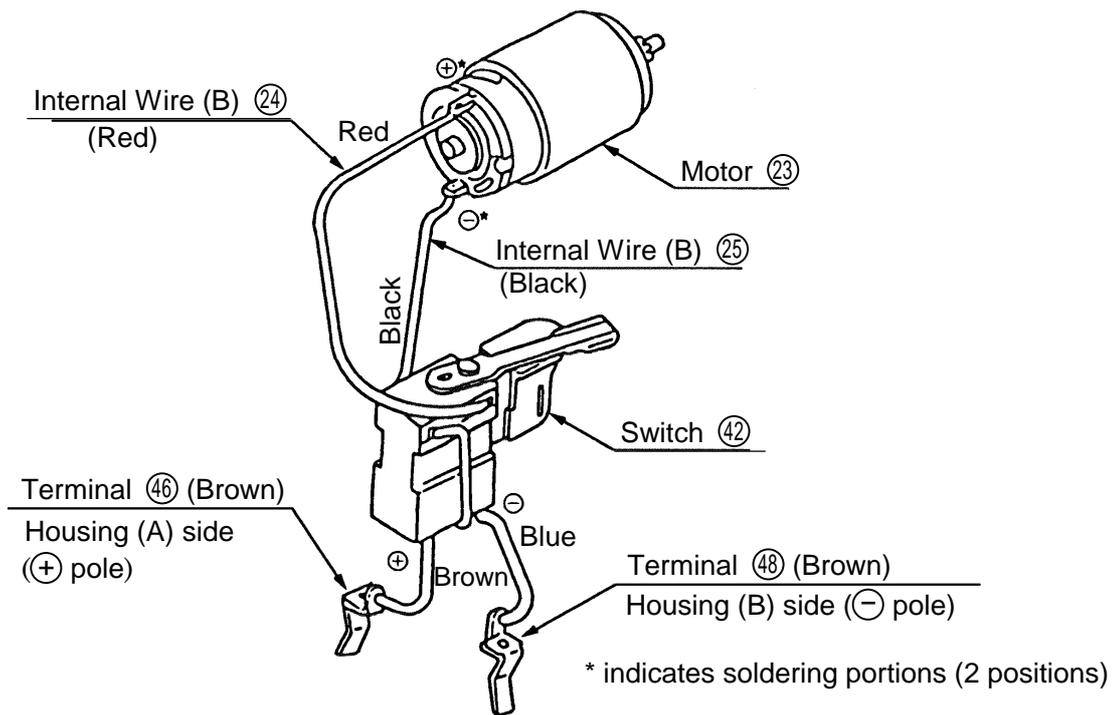

Fig. 3 Internal wire Arrangement of the Model DS 7DT
- (1) Ensure that the wiring of the Model DS 7DT is connected in accordance with the internal wire arrangement illustrated in Fig. 3.
- (2) When inserting the internal wires into the terminals of the Switch ④②, carefully confirm that the leaf spring connector for each wire is not excessively deformed. On completion of internal wire connections, ensure that they cannot be easily pulled out of the Switch when gently pulled by hand.